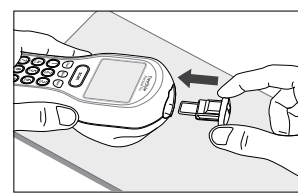

Figure 3
2. Slide the replacement strip port module into position on the meter. (Fig. 3)